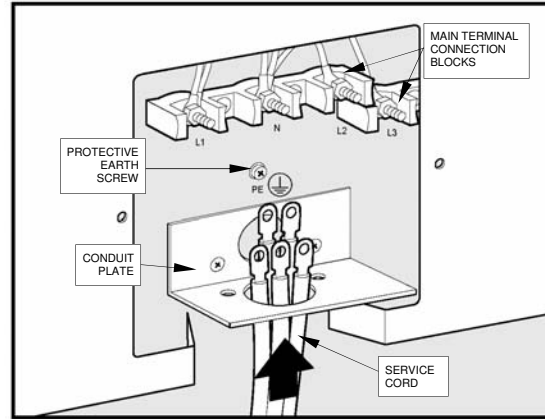
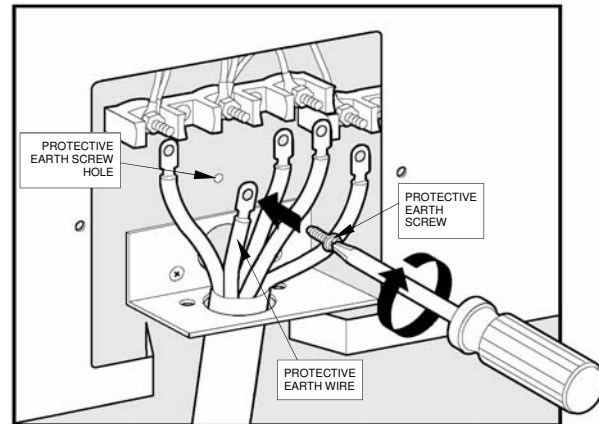
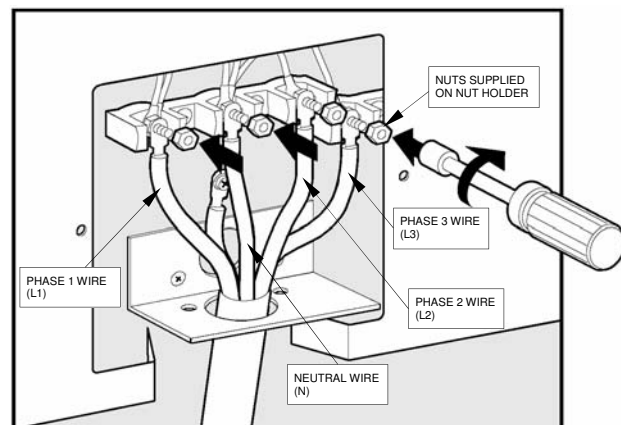

FIGURE 9
FIGURE 10
FIGURE 11
**FIVE WIRE SERVICE CORD OR CONDUIT INSTALLATION:** Pull the service cord through (See figure 9). **The protective earth wire must connect to the protective earth screw** (See figure 10). Connect the remaining wires (See figure 11).